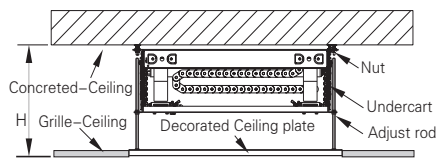

Figure 3 Standard ceiling installation
A. If $H < H1$ (Supposed it's Maximum H2), can install project lift on the Concreted–Ceiling directly Check Figure 3.